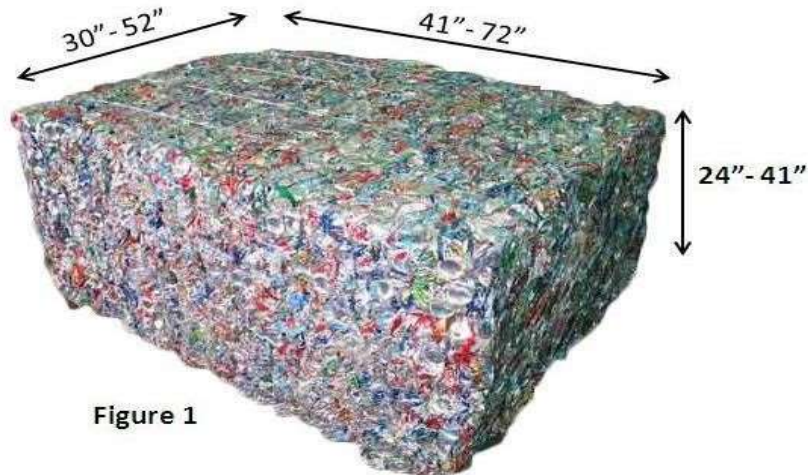

Figure 1
- 5.h.2 Bales of class III (see figure 1) must be a least 30 cubic feet with dimensions in inches in the following ranges: 24" to 41" x 30" to 52" x 41" to 72" , for Uhrichsville and Davenport range max weight 3000lbs per bales.